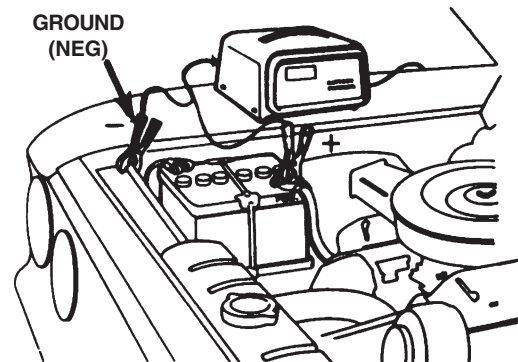

FIGURE 7 CONNECTION TO NEGATIVE GROUNDED BATTERY
5. For a negative-grounded vehicle, connect POSITIVE (RED) clamp from battery charger to POSITIVE (POS, P,+) ungrounded post of battery. Connect NEGATIVE (BLACK) clamp to vehicle chassis or engine block away from battery. Do not connect clamp to carburetor, fuel lines, or sheet-metal body parts. Connect to a heavy gage metal part of the frame or engine block. (Figure 7)